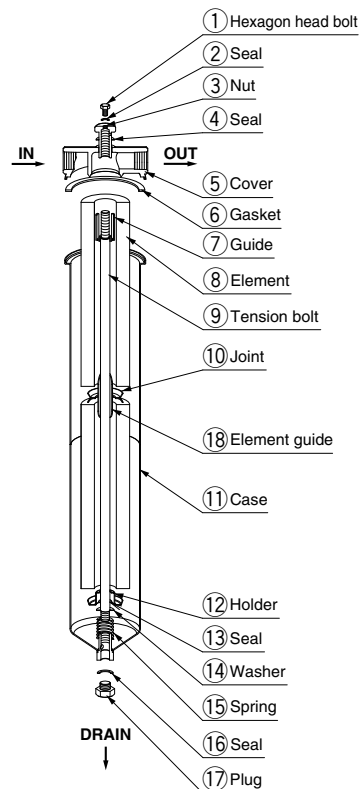

Figure 1 Parts descriptions and functions
1. Removal of the Element (See Fig. 1)
2. Mounting of the Element (See Fig. 1)